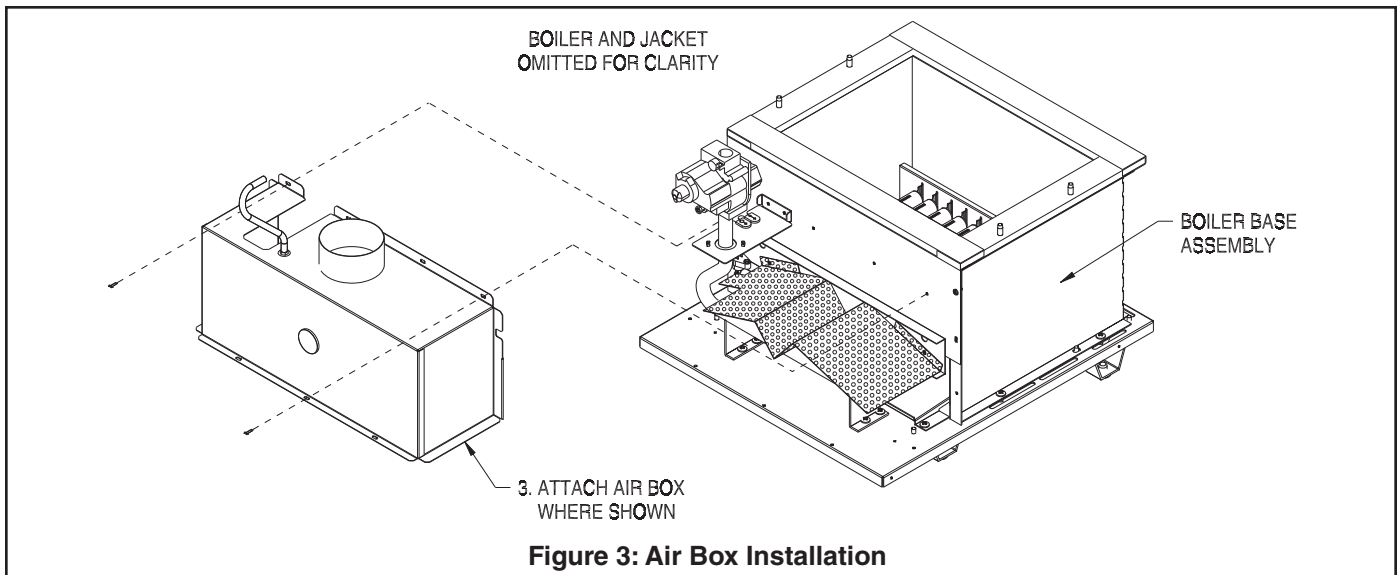

Figure 3: Air Box Installation
- Mount the air box assembly on the boiler as shown in Figure 3. Secure with the 1/2" sheet metal screws provided. Depending on the boiler size, this will either require 4 or 7 screws (See Table 1). The easiest way to install these screws is to start all of them before tightening any.